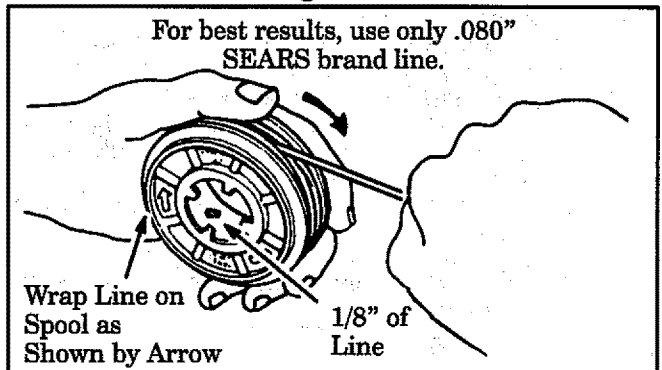

Figure 21
- Insert 1/16" to 1/8" of the end of the line through the hole in the spool. Figure 21. Allow no more than 1/8" line to extend inside the spool.
- Wrap the line onto the spool firmly and evenly in a clockwise direction as shown by the arrow on the spool. Figure 21.